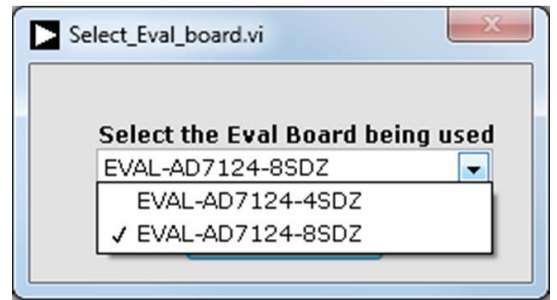
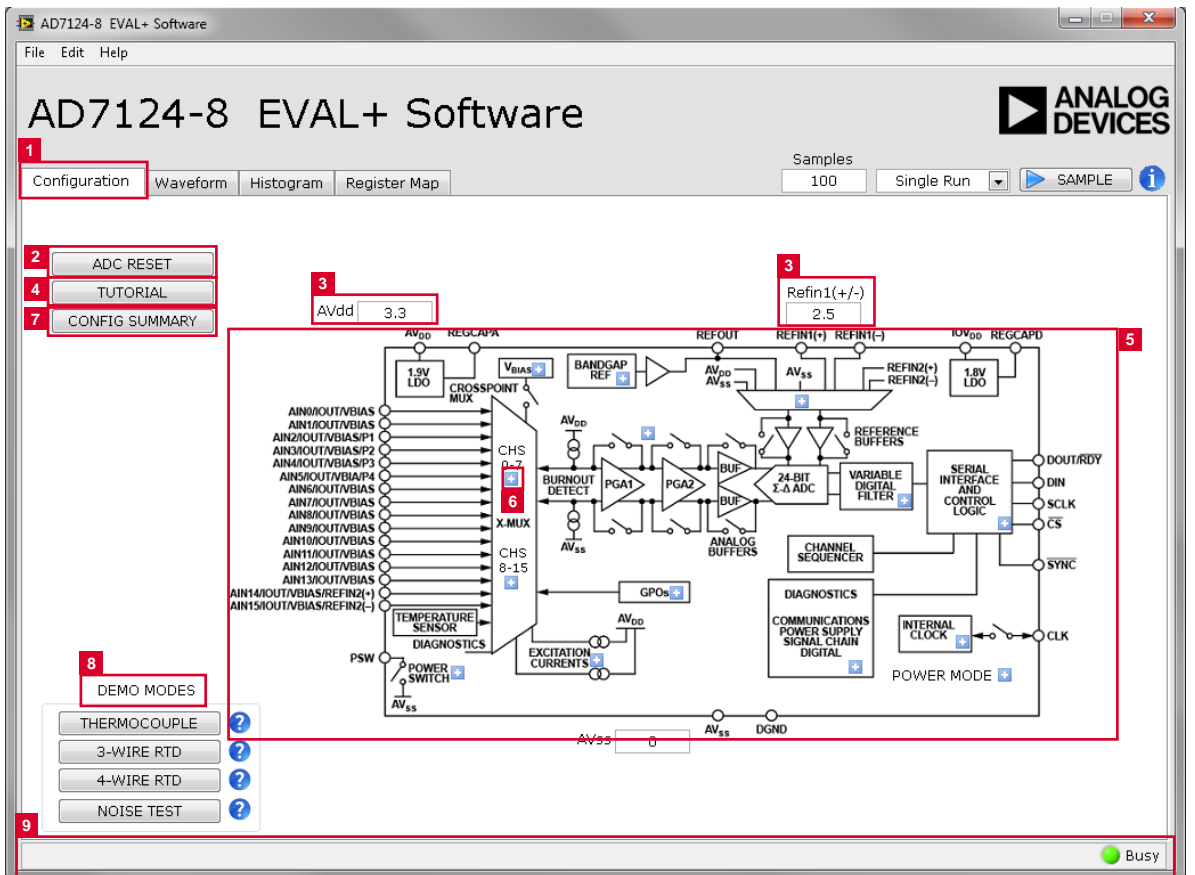

Figure 19. AD7124 Evaluation Board Selection
Figure 20. Configuration Tab of the AD7124-8 EVAL+ Software
1. From the Start menu, click **Programs > Analog Devices > AD7124 Eval+ > AD7124 Eval+**. The dialog box in Figure 19 appears; select **EVAL-AD7124-8SDZ**, and the main window of the software then displays as shown in Figure 20.
When running the software, the specific evaluation board connected to the pc can be selected as shown in Figure 19. For the AD7124-8, select EVAL-AD7124-8SDZ from the drop-down menu as shown in Figure 19.
When selecting EVAL-AD7124-8SDZ, the main window of the evaluation software displays, as shown in Figure 20. Figure 20 shows the control buttons and analysis indicators of the AD7124-8 EVAL+ Software. The main window of the AD7124-8 EVAL+ Software contains four tabs:
The **Configuration** tab shows a block diagram of the AD7124-8. It allows the user to set up the ADC, reset the ADC, read the diagnostics to view errors present, as well as configure the device for different demo modes. Figure 20 shows the **Configuration** tab in more detail, and the following sections discuss the different elements on the **Configuration** tab of the software window.
Click the **NOISE TEST** demo button (Figure 20) to configure the device for the noise test. The **AD7124-8** is now configured for the noise test demo, where the output data rate is 9.38 SPS, where the sinc⁴ digital filter, full power mode of operation, and external reference REFIN1(±) is selected. Gain and offset are the default factory values following a reset.